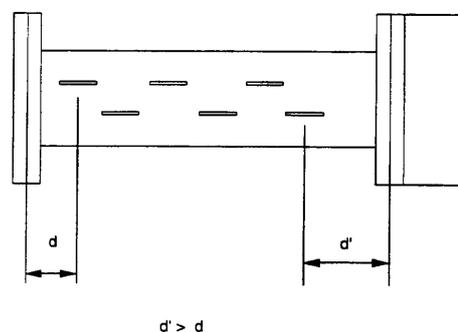
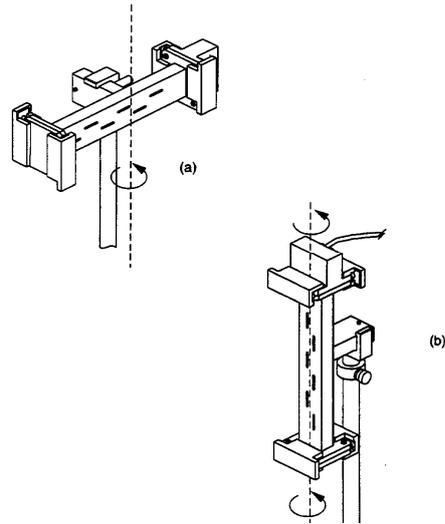

Figure 1 Set up of a slot antenna.
Figure 2 The slot antenna (a) Vertically polarized,
5. Replace the receiving antenna by the slot antenna, after connecting the short circuit and the coaxial-to-waveguide adapter to the two ends of the waveguide. Make sure that the short circuit is connected to the end, which is closer to the first slot as shown in Figure 1. The slot antenna will be oriented as shown in Figure 2-a. Start an acquisition and store the pattern in antenna 1 data box.
6. Rotate both antennas by 90° , so they are oriented for an acquisition of the E plane pattern. The slot antenna will be horizontally polarized as shown in Figure 2-b. Store the new pattern in antenna 1 data box.